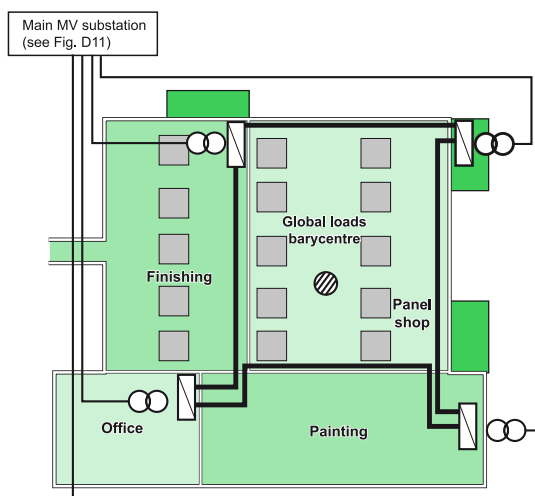

Figure 12 – Layout example. The position of the global load barycentre guides the positioning of power sources.
- 1. Selection guide** – IEC 60364-8-1 §6.3, recommends MV/LV substation locations be determined by using the barycenter method, **see Figure 12:**